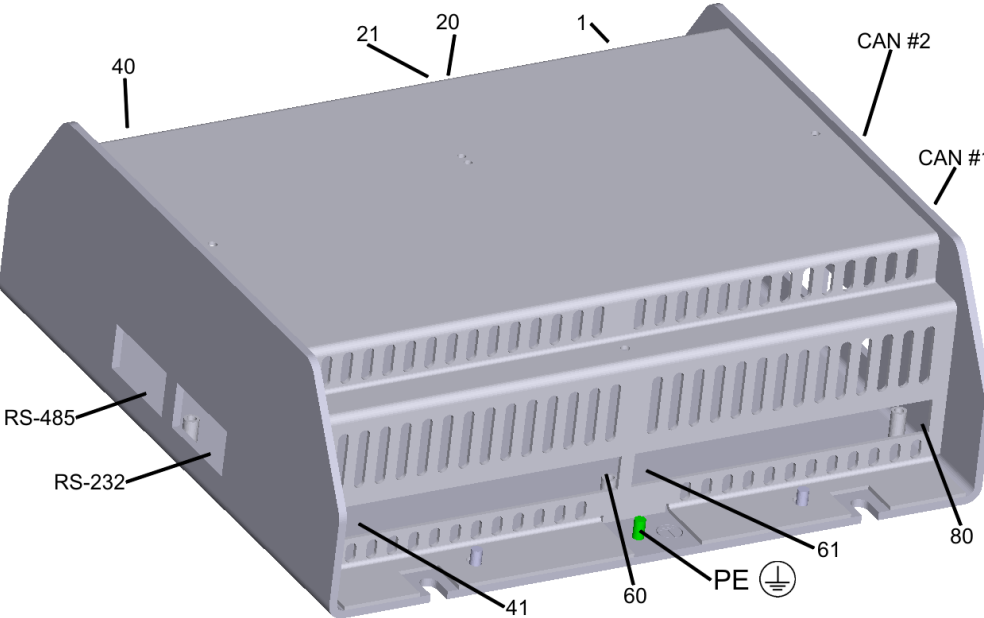

Figure 4-9: easYgen-3100 - terminal arrangement
The Protective Earth terminal 61 is not connected on the easYgen-3100 with sheet metal housing. The protective earth connection at the sheet metal housing must be used instead (refer to Figure 4-9).
The Protective Earth terminal 61 is not connected on the easYgen-3100 with sheet metal housing. The protective earth connection at the sheet metal housing must be used instead (refer to Figure 4-9 on page 17).
- Protective Earth (PE) must be connected to the unit to avoid the risk of electric shock. The conductor providing the connection must have a wire larger than or equal to 2.5 mm² (14 AWG). The connection must be performed properly.
- **easYgen-3100:** The protective earth terminal 61 is not connected on the easYgen-3100 with sheet metal housing. The protective earth connection at the sheet metal housing must be used instead (refer to Figure 4-9 on page 17).